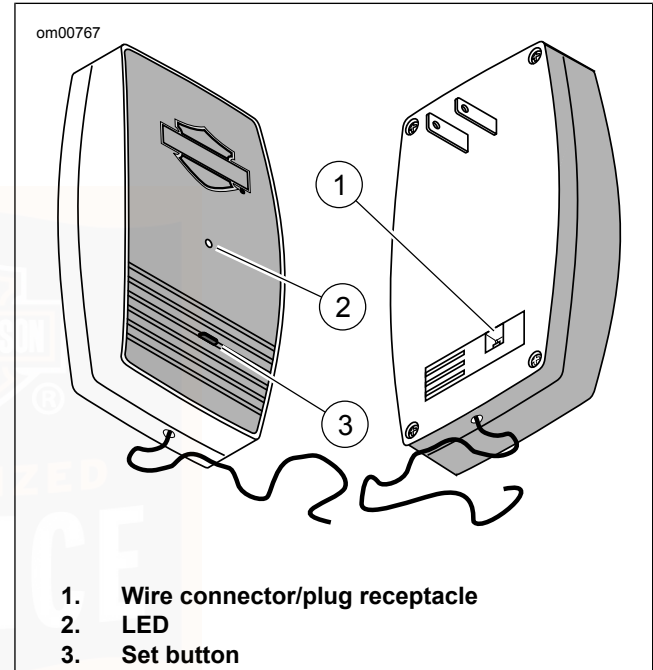

Figure 46. Garage Door Opener Receiver
5. See Figure 46. Plug the connector on the receiver wires into the receptacle (1) on the back of the receiver.
2. See Figure 46. Press and hold the Set button (3) on the Harley-Davidson garage door opener receiver. The LED (2) blinks continuously while the Set button is pressed.